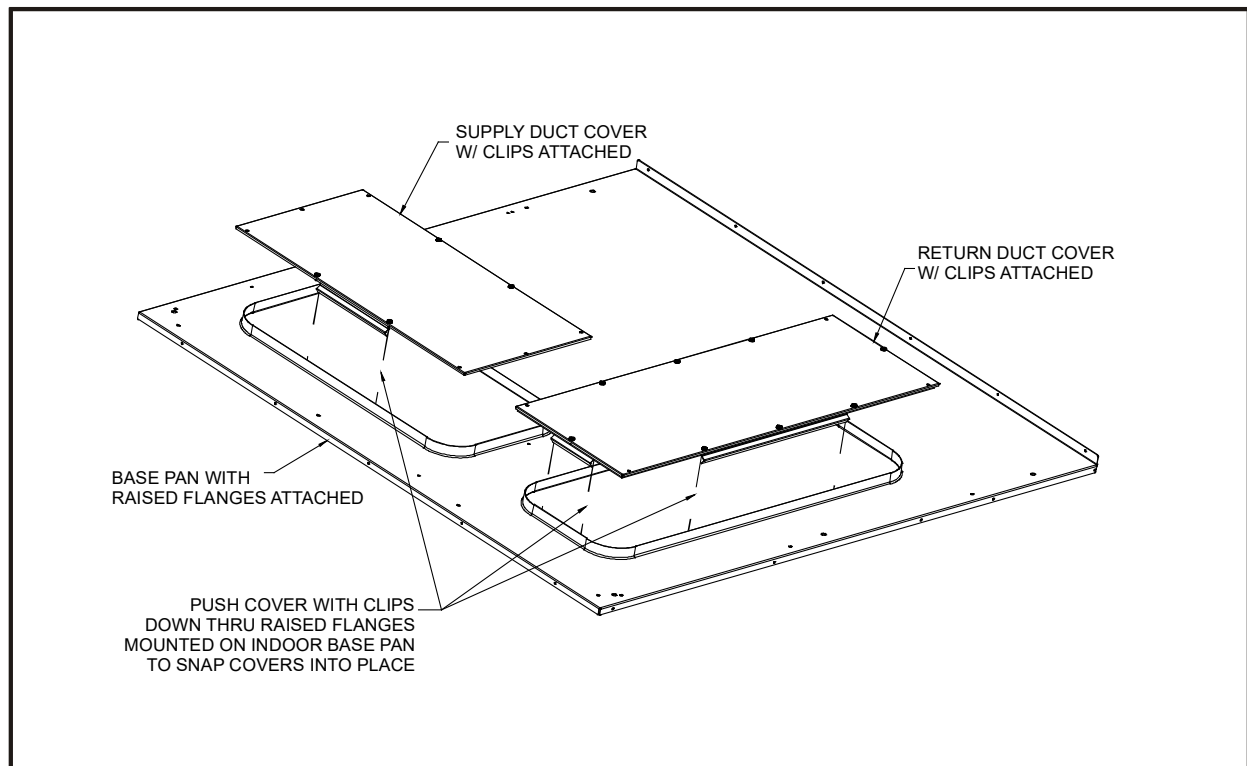

Figure 3
5. Place the assembled panels over the supply and return duct openings in the base pan and push down to snap panels into places, as shown in Figure 3. **NOTE:** For 7.5 to 12.5 Ton models, have the 0121L04879 bracket on the supply duct cover facing the evaporator, slide it under the heat exchanger over the supply duct, and push the other side down to snap into place.